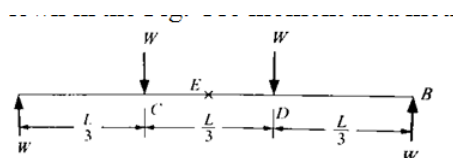

Figure 2
- (b) Determine the horizontal displacement and rotation at roller support in the frame shown in Figure 2. by unit load method. Flexural rigidity  $EI$  is constant throughout. [7M]